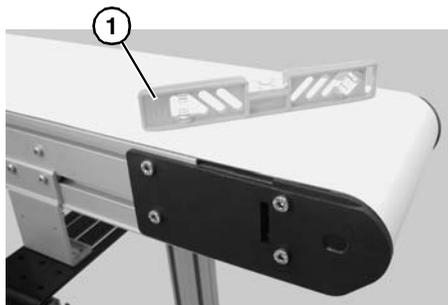

Figure 3
Conveyor *MUST* be mounted straight, flat and level within confines of conveyor. Use a level (Figure 3, item 1) for setup.